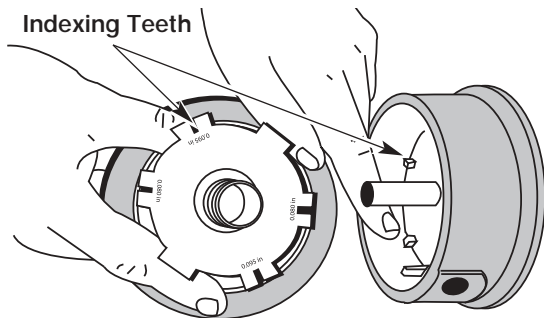

Figure 29
5. Check the indexing teeth on the inner reel and outer spool for wear. If necessary, remove burrs or replace the reel and spool. See Figure 29.